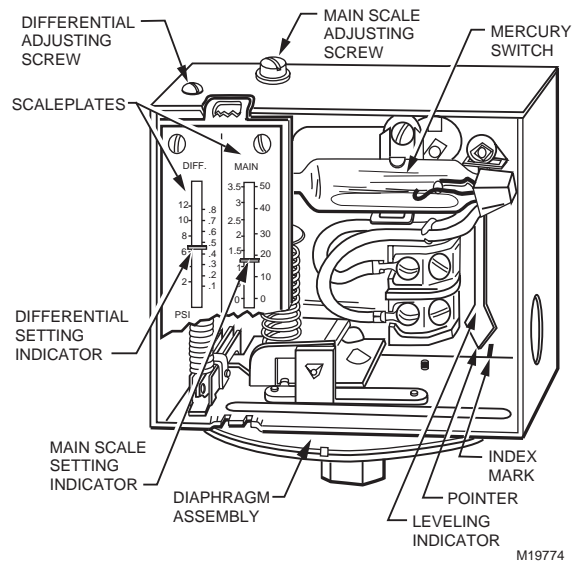

Fig. 9. Setting a VaporStat® Controller.
Adjust the main scale setpoint for the desired operating pressure by turning the main scale adjusting screw (see Fig. 9) on the top of the case until the main scale setting indicator is at the desired value. Adjust the differential setting by turning
2. Turn the main scale adjusting screw (see Fig. 9) until the main scale setting indicator on the controller corresponds to the boiler pressure gauge reading.
4. If the controller is operating properly, turn the main scale adjusting screw (see Fig. 9) until the main scale setting indicator is at the desired setpoint.
The controller was carefully calibrated during manufacture and should not require recalibration. Most calibration errors are caused by improper leveling. The controller should be level if the pointer on the leveling indicator is directly over the index mark (see Fig. 9). In some cases, the leveling indicator may not be accurate enough. The pointer may be over the index mark but the controller still may not be operating within the tolerance of its scale setting. In that case, carefully bend the steam trap (siphon loop) until the controller switches properly.